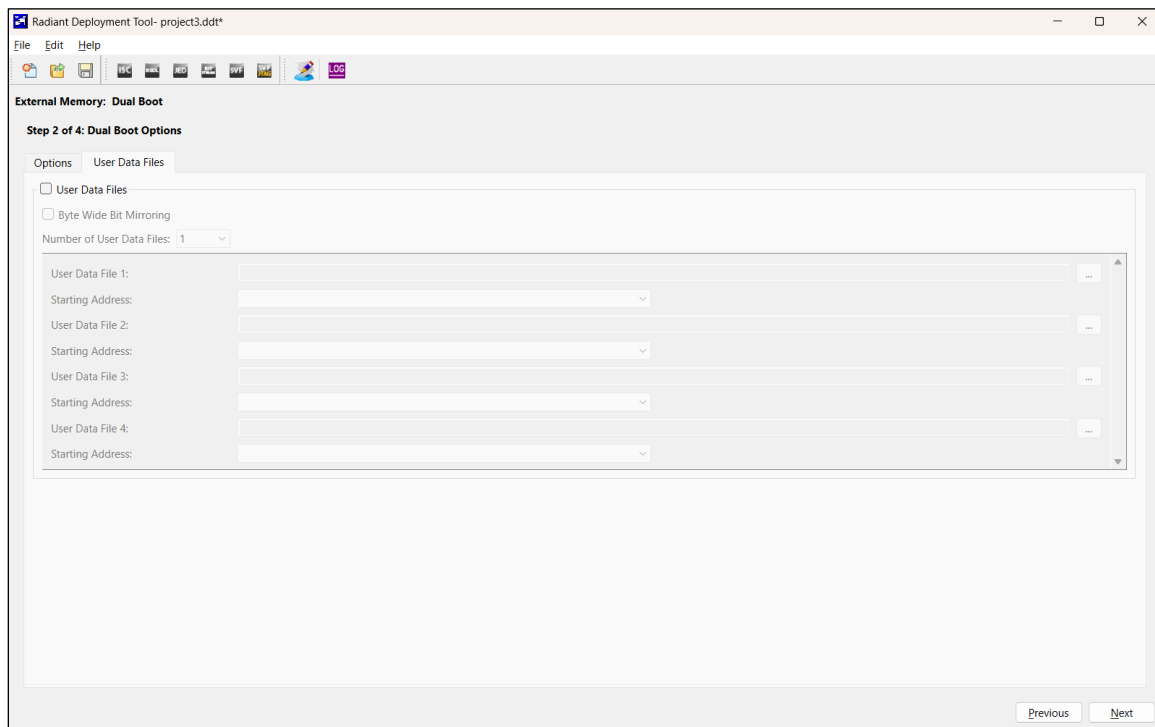

Figure 7.4. Dual Boot Options Window – User Data Files Tab
- (Optional) If programming the flash memory with user data is required, click the **User Data Files** tab (Figure 7.4).